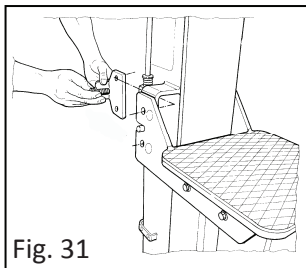

Fig. 31
1. Remove the intermediate board if this is positioned and also the end-of-stroke slot for the board. (Fig. 31)